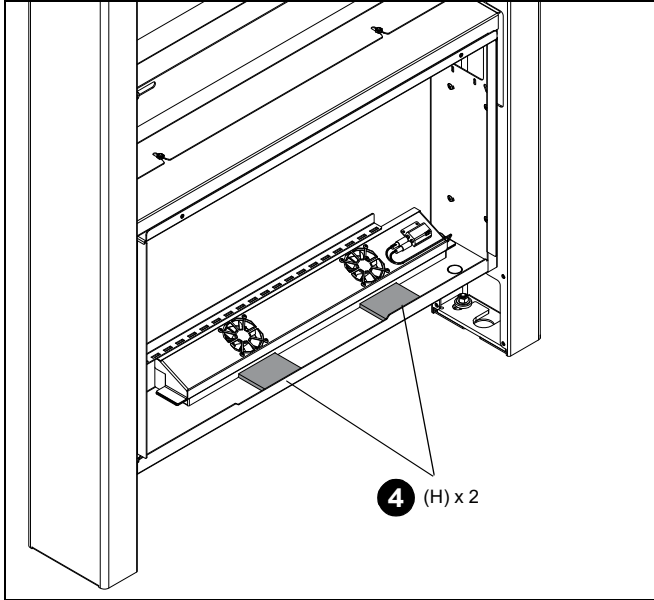

Figure 13
4. Insert two small filters (H) into the gaps directly underneath the fans between the filter bracket and the bottom panel of the enclosed storage area. (See Figure 13)